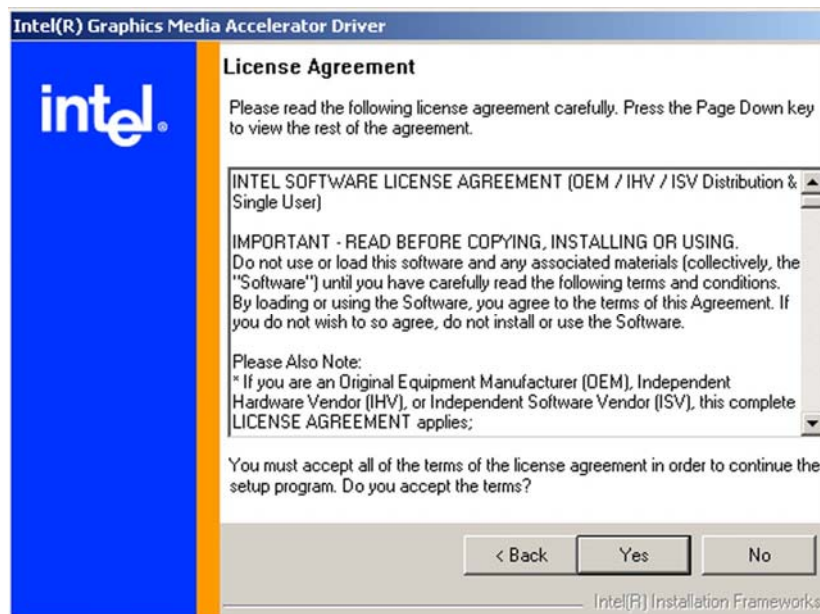

Figure 6-9: VGA Driver License Agreement
Step 6: A license agreement shown in Figure 6-9 appears. Read through the license agreement.
Step 7: Accept the terms and conditions stipulated in the license agreement by clicking the “YES” button (Figure 6-9). The installation notice shown in Figure 6-10 appears.